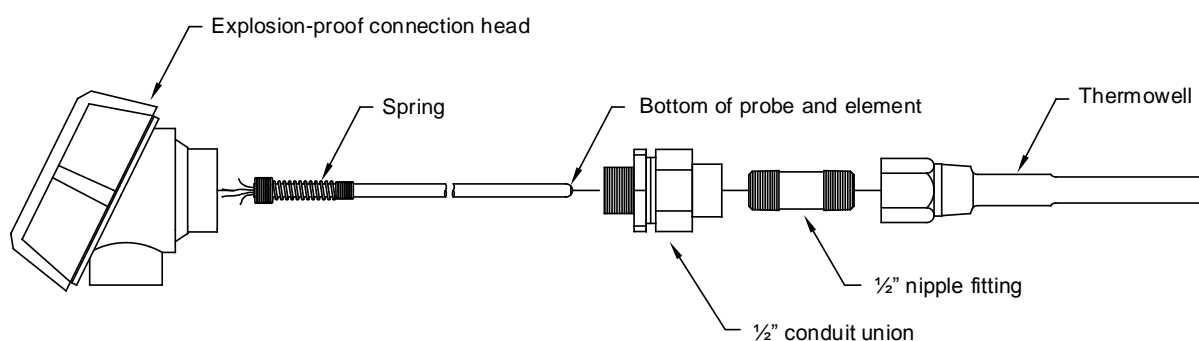

Figure 20: Explosion-proof RTD, disassembled
1. Screw the ½ inch nipple fitting, supplied with the RTD, into the thermowell (Figure 20).